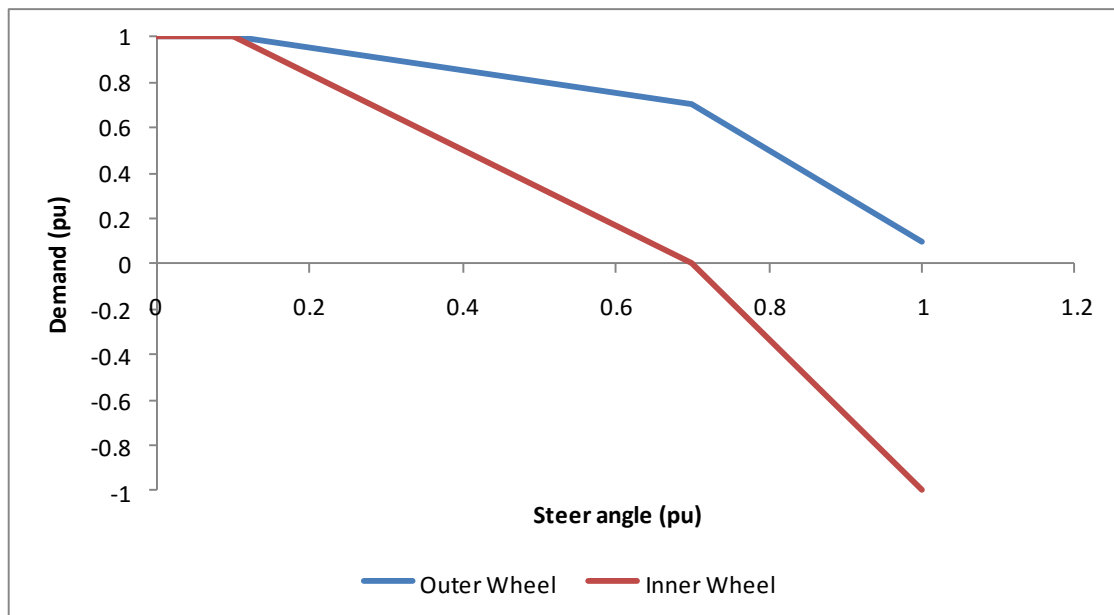

Figure 27: Graph of speed vs. steering angle
- Setup the steering map. This map defines the relationship between the inner and outer wheel speeds and the steering angle. Each map has 4 user definable points as shown in Figure 27.